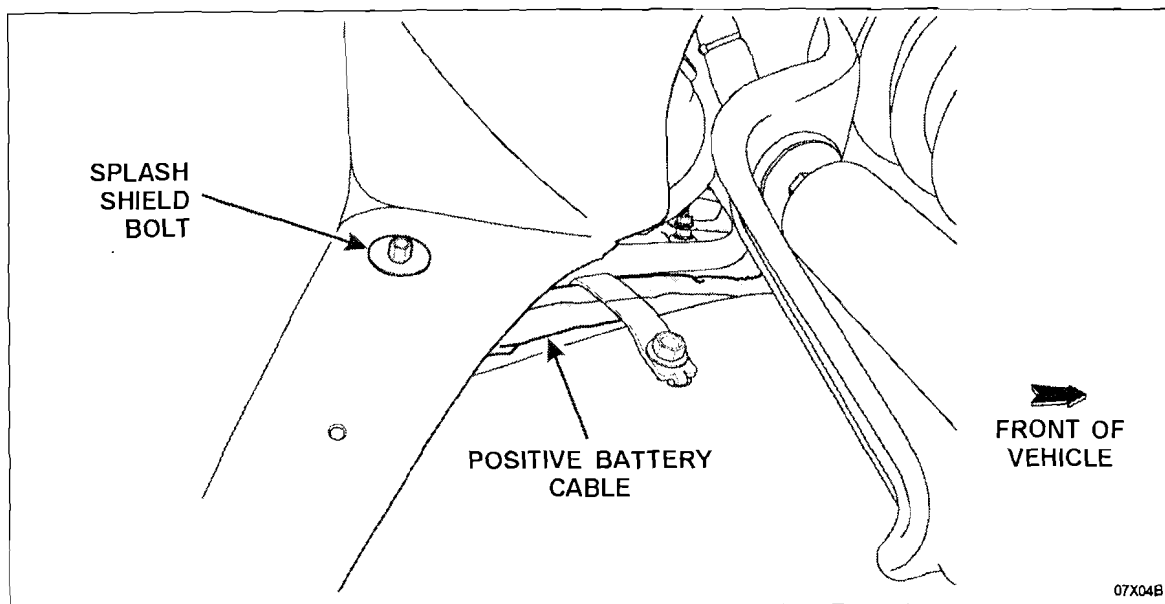

FIGURE 1
2. Verify that there is at least 15 mm (5/8 in) of clearance between the positive battery cable and the splash shield bolt by placing your hand between them. See Figure 1